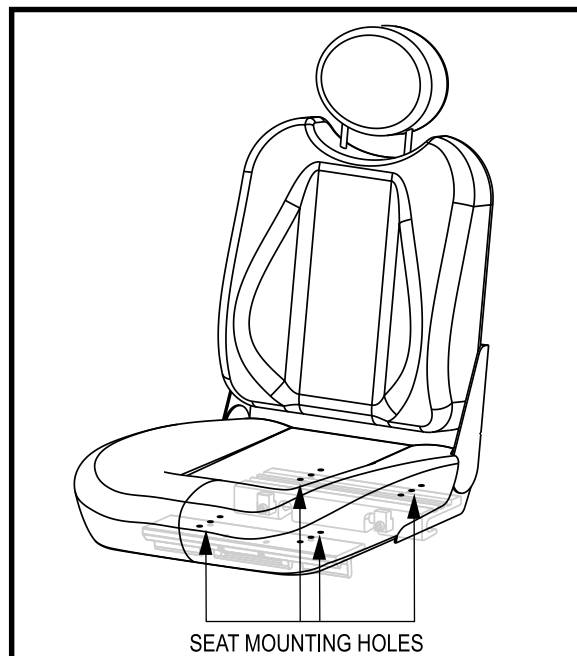

Figure 13. Seat Mounting Holes
3. Reposition the extrusions on a different set of mounting holes. See figure 13. You must move both extrusions the same number of holes either forward or backward.